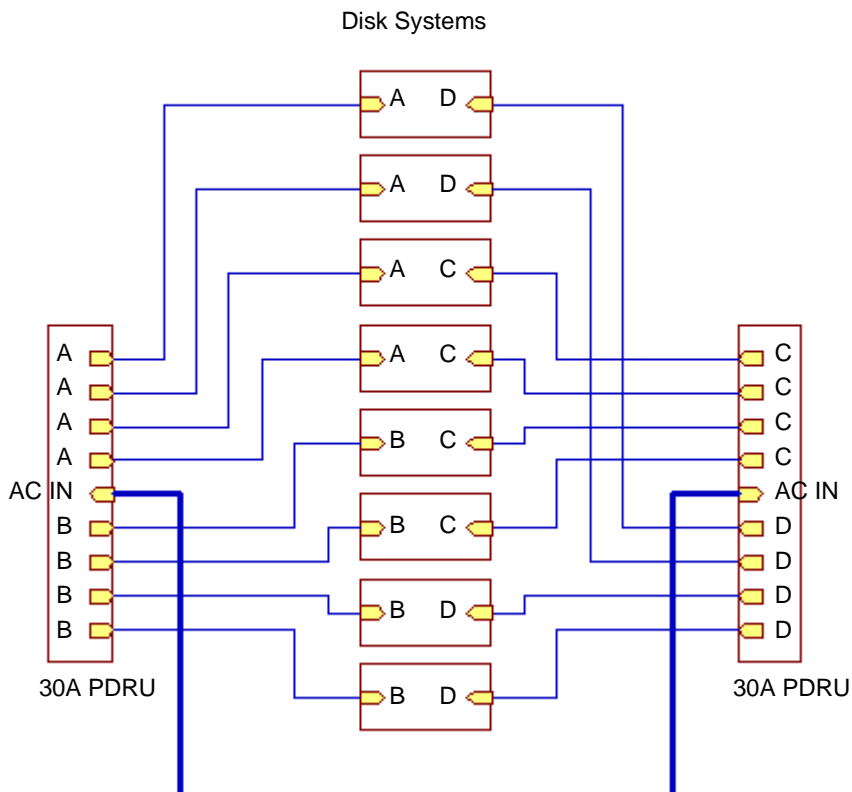
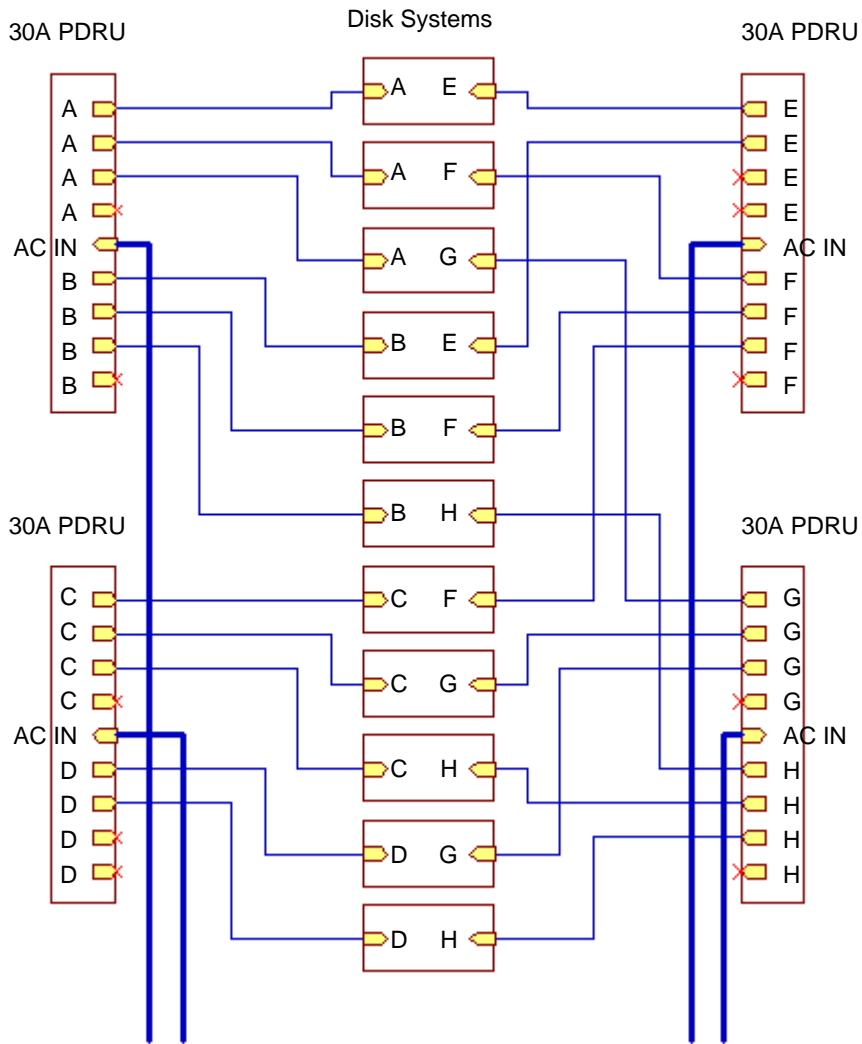

Figure 29 Wiring Scheme for 1.6-Meter Rack
Figure 30 Wiring Scheme for 2.0-Meter Rack
- **Redundancy.** To extend the redundancy of the product, attach each cord to a different PDU. This is represented in Figure 29 and Figure 30 by the absence of duplicate letters in each disk system.
- **Reliability.** To avoid cascading faults for a group of disk systems that are plugged into the same PDU, distribute redundant power cords to as many different combinations of PDUs as possible. This is represented in Figure 29 and Figure 30 by the least number of duplicate pairs of letters among all disk systems. Cascading faults occur when a backup PDU is overloaded with power surges after the primary PDU fails.